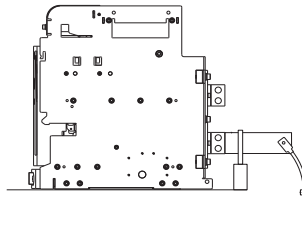

Fig. 1
- Elongated terminals shall have isolated support, and the cable shall be fastened on hard surface (Fig. 1).